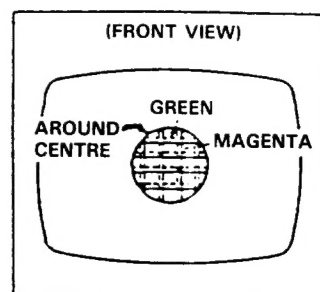

Fig. 2-8
4. Rotate the rear pair of tabs as a unit to minimize the separation of the magenta and green lines. (Fig. 2-8)